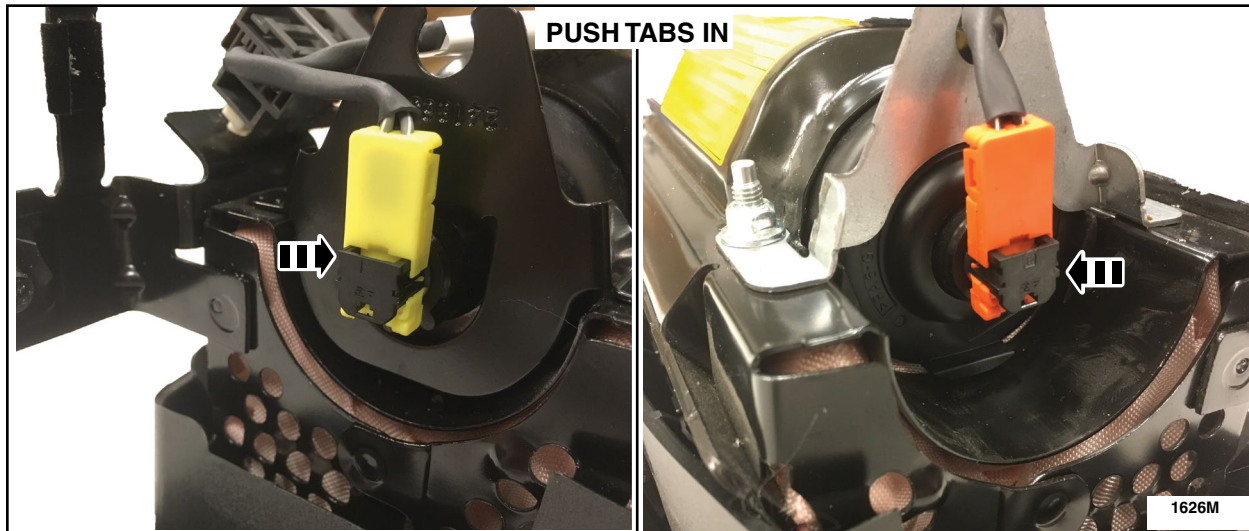

**FIGURE 9**
12. Install the *new* passenger airbag inflator retaining bracket and *new* nuts. See Figure 9.